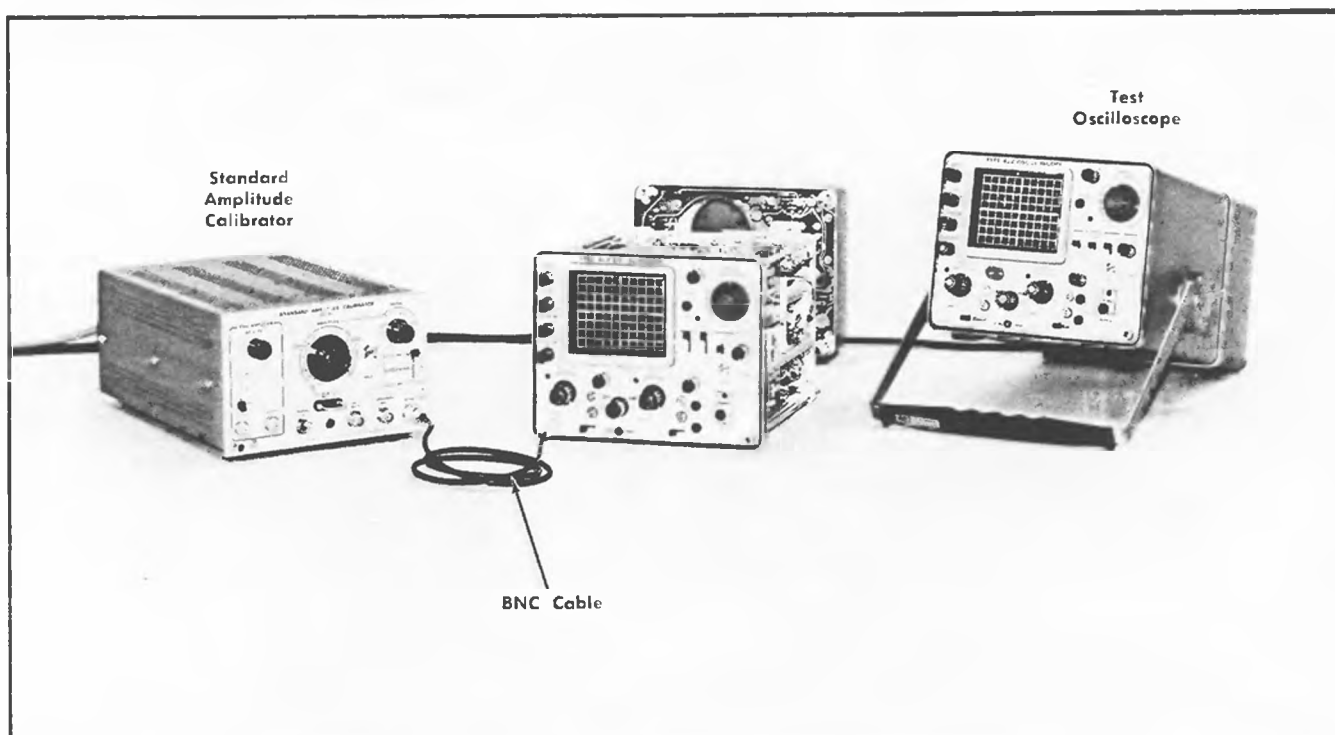

Fig. 6-28. Initial test equipment setup for steps 26 and 27.
- Test equipment setup is shown in Fig. 6-28.